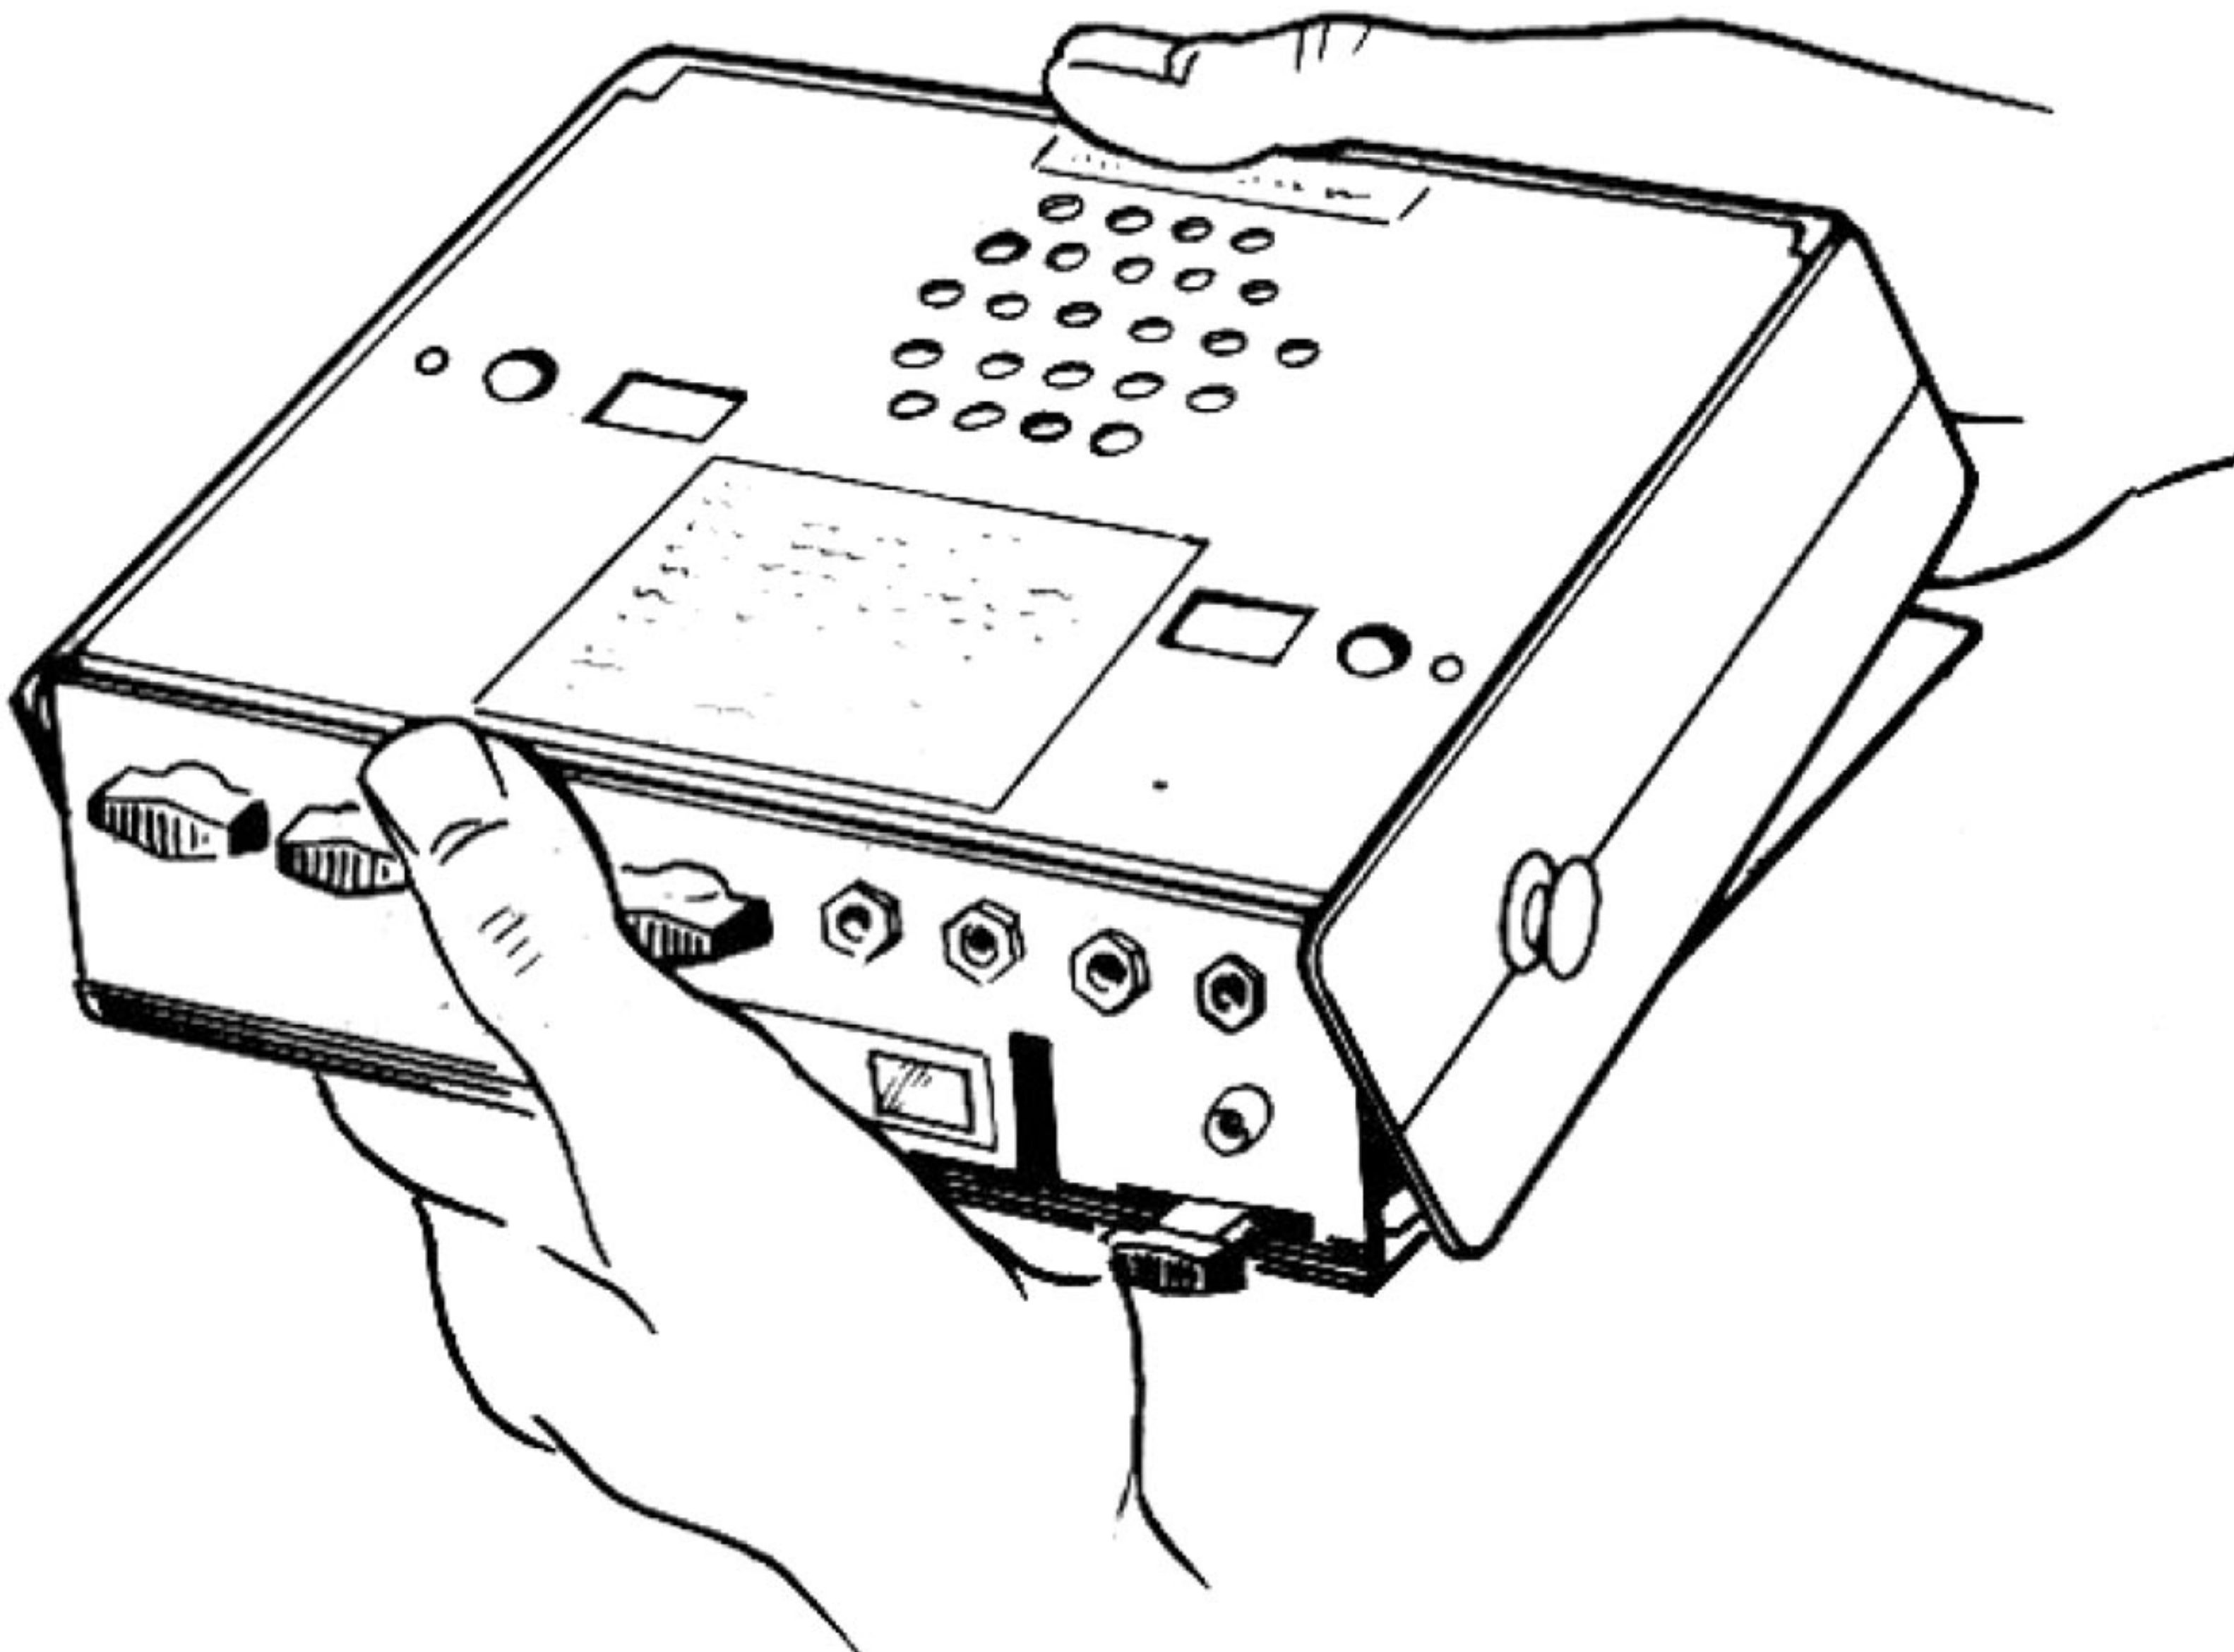

Fig 1.
3. Turn the machine over so that the record head cover (23.) rests in the palm of the left hand, with the thumb across the front panel between the tape switch (3) and the volume control (5).
4. Ease off the case with the right hand, as in Fig. 1.